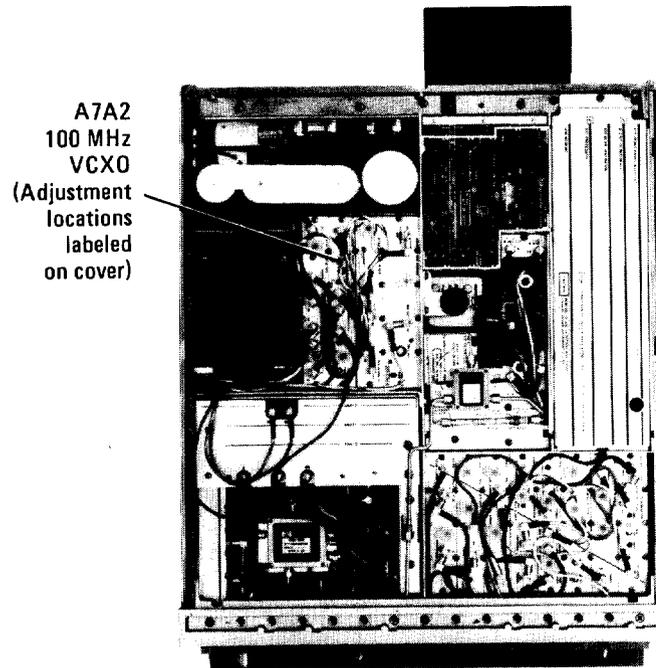

FIGURE 49. LOCATION OF 100 MHz VCXO ADJUSTMENTS
3. Jumper – 10 Vdc from A18TP4 to A7A2TP1 TUNE test point. Refer to Figure 49 for location of A7A2 and adjustments.